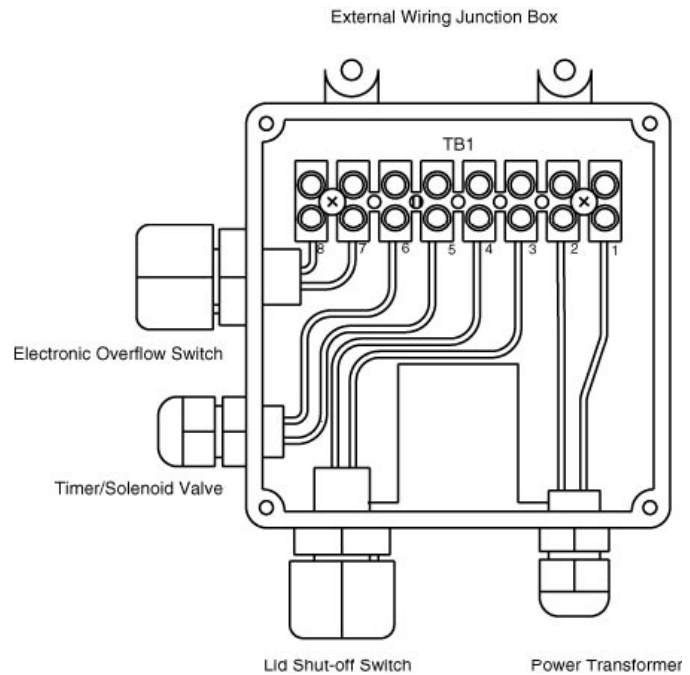

Figure 1 - Junction Box Terminator Strip
The transformer, Lid Shut-off Switch, Electronic Overflow Switch and Solenoid/Timer Assembly are wired to the junction box terminal strip (Fig. 1 & 2). A relay is mounted in the junction box to remove the 24 Volt supply from the Solenoid/Timer Assembly if the chlorinator lid is removed or if the chlorinator tank overfills.
2. Connect the meter test leads to terminals 1 and 3 of TB1. No voltage should be present. While observing the meter, lift the lid of the hopper. The meter should read 24 volts and return to zero when the lid is replaced. Lift the hopper off its base. The meter should indicate 24 volts and return to zero when the base is replaced. Lift the hopper lid and press down the lid switch. Reach under the deflection plate and lift the electronic overflow switch. The meter should indicate 24 volts with switch in the up position and return to zero when released. During the next test, remove power to the junction box between each step by unplugging the transformer from the power outlet. Once the wire is removed from the terminal strip and is isolated, restore power to the junction box and perform the test. If 24 volts is always present during the above tests the hopper lid switch and/or the electronic overflow switch may be defective and must be disconnected from the terminal strip TB1 one at a time. Refer to Fig. 1 and disconnect the wire to terminal 3 of TB1. Observe the meter. The 24 volts may or may not return to zero. If the voltage returns to zero then the lid switch is defective and must be replaced. If the 24 volts remain with terminal 3 disconnected leave the wire to terminal 3 disconnected and perform the same test with the electronic overflow switch. Disconnect the wire to terminal 7. Again the 24 volts should return to zero. If not the electronic over flow switch is defective or is stuck in the up position. Remove power to the Junction box and reconnect the wires to terminal 3 and 7.